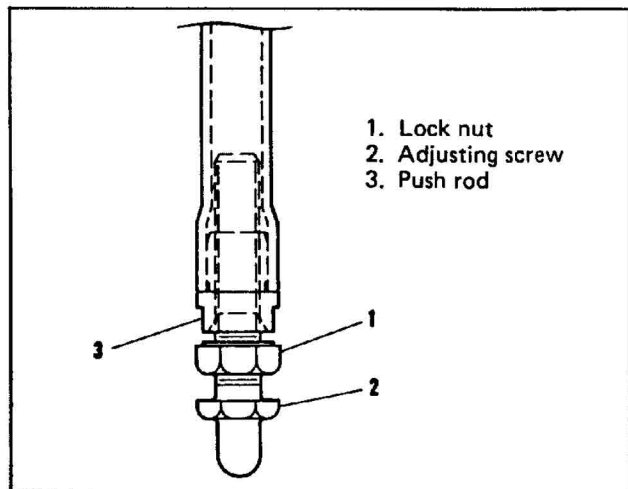

Figure 2. Push Rod Adjustment
2. See Figure 2. Loosen the locknut (1) and bottom the adjusting screw (2). Remove the push rod assembly (3).
5. See Figure 2. With the tappet in its lowest position, turn the adjusting screw (2) upward, shortening the push rod, until push rod has a noticeable shake. Place a wrench on the flats at the base of the push rod to prevent it from turning. Slowly turn adjusting screw downward until all shake has been eliminated. Turn the adjusting